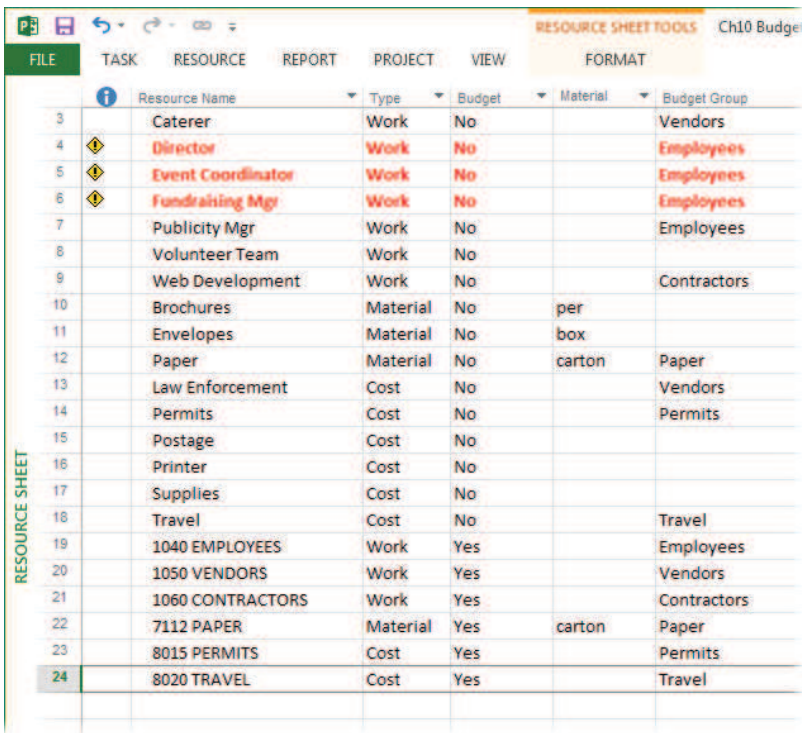

FIGURE 10-11
1. **With your text field (Group, Code, or custom text field) prominently displayed in Resource Sheet view, work your way through the resources, typing the appropriate budget category name for each one, as illustrated in Figure 10-11.**